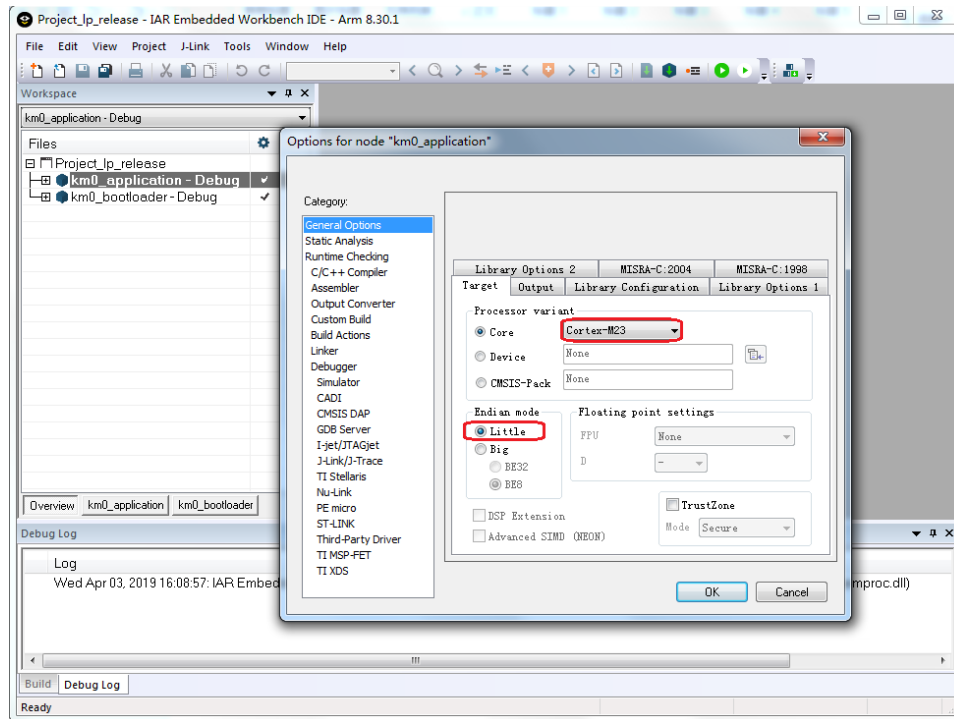

Fig 6-7 KM0 processor options
- (1) Open **project\realtek_amebaD_va0_example\EWARM-RELEASE\Project_lp_release.eww**.
- (2) Make sure km0_bootloader and km0_application are in Workspace. Click **Project > Options, General Options > Target > Processor Variant > Core**, verify the CPU configurations according to Fig 6-7.